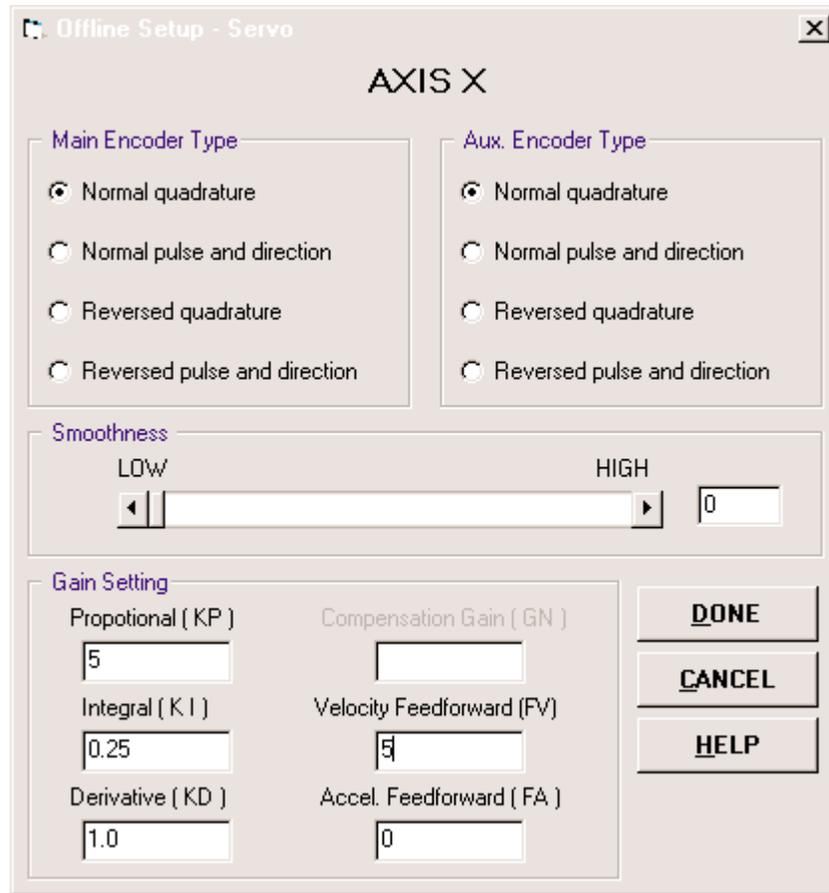

Figure 5.7 - Servo axis setup
**A. Analog:** If an analog signal is selected, a servo setup window, as shown in Fig. 5.7, will show up for you to configure the servo settings.